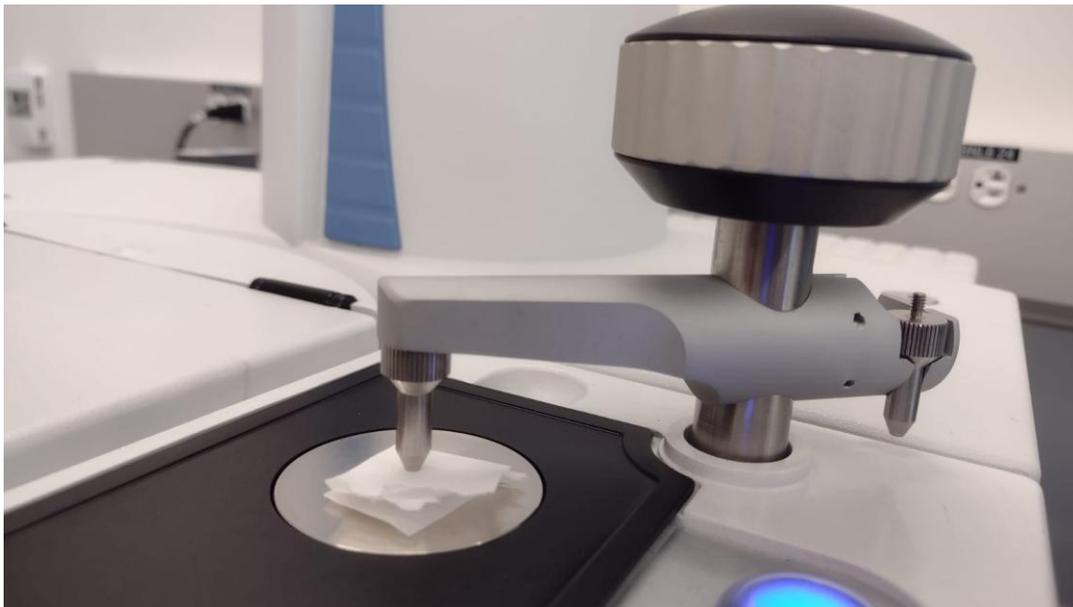

Figure 20. Example of ATR Sample loading
14. Once the background data is obtained, place the sample as in Fig 20. For powder samples, ensure the sample is tight between diamond crystal plate and the pressure tower. After sample is loaded, press OK on the pop-up to start the scan. The image below is the scan